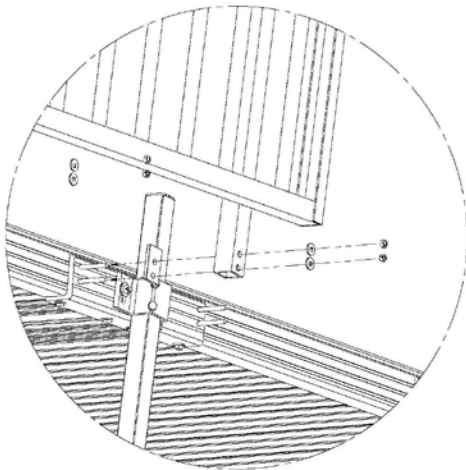

FIG. 29b
- 6.1.1 Install the Ramp Guard Post Spacers over the 5/16"-18 studs protruding from the brackets previously installed on the ramp section with the long end of the spacer pointing up (FIG 29b).